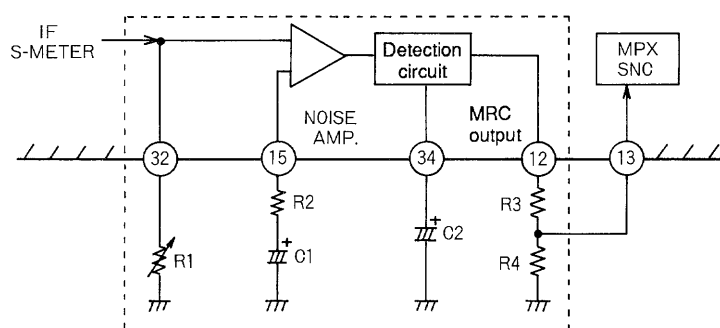

Figure 2 Multipath Circuit
- The MRC (multipath rejection circuit) supports three techniques as shown in Figures 2, 3 and 4. Figure 2 shows the technique in which the S-meter AC component is detected directly. Figure 3 shows the technique in which the NC HPF noise is detected, and Figure 4 shows the technique in which multipath is detected using the S-meter high area components.